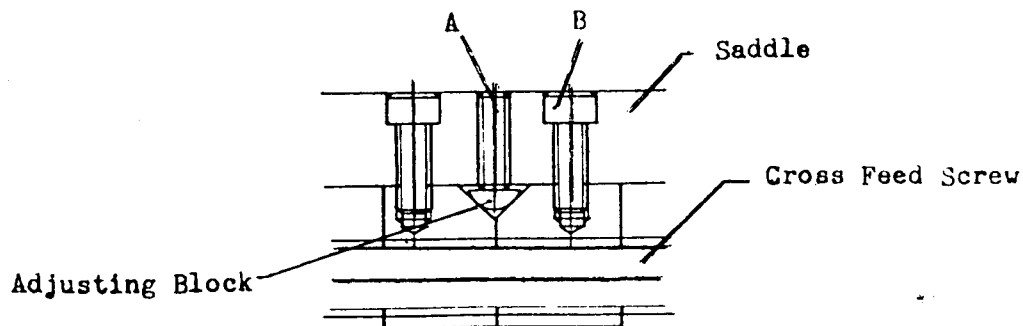

Fig. 9.
- (1) Loosen bolt "B" (Figure 9).
- (2) Tighten bolt "A". (While tightening move crossfeed screw back and forth.)
- (3) Tighten bolt "B" for fixing of nut.